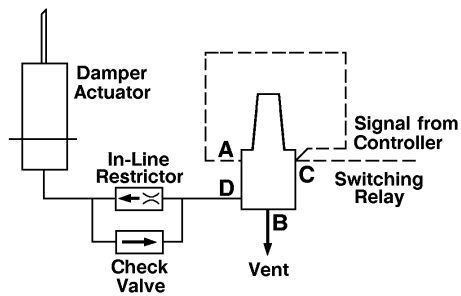

Figure 4.
- Slow to supply, fast to exhaust, refer to Figure 4.